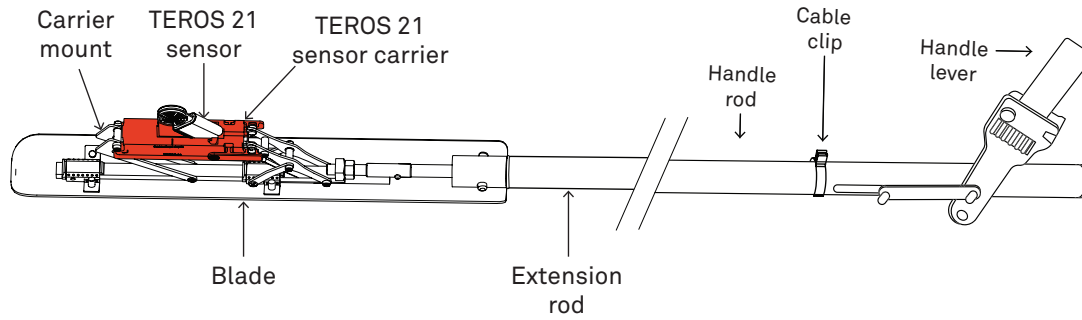

Figure 26 TEROS 21 sensor inserted in sensor carrier
1. Position the sensor into the carrier (Figure 26 shows the TEROS 21 inserted into the carrier).
3. Press the sensor cable into the cable slot on the sensor carrier (Figure 26).